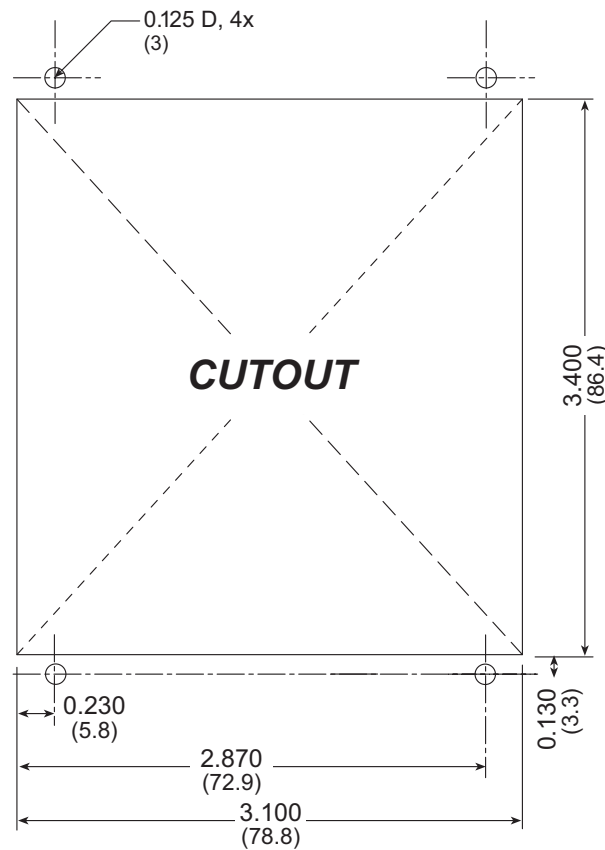

Figure C-11. Recommended Cutout Dimensions
1. Cut mounting holes in the mounting panel in accordance with the recommended dimensions in Figure C-11, then use the bezel faceplate to mount the LCD/keypad module onto the panel.